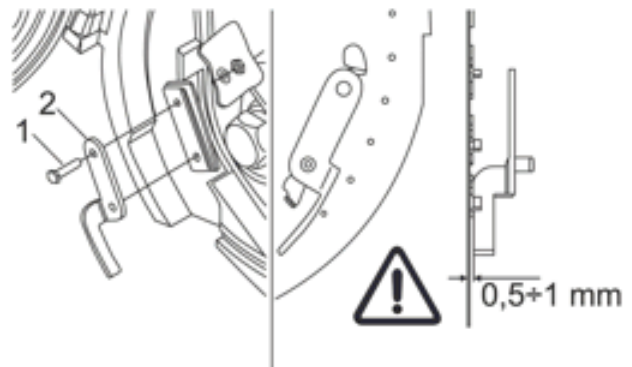

Fig. 16
Use the scraper (2, Fig. 16) only for sugar beet seeds.
Disengage the scraper part by loosening the screw (1, Fig. 16) for large seeds like sunflower, corn, soy bean and peanut.
Place the scraper like in Fig. 16 and tighten the screw (1). Be sure that disc and scraper are not telescoped. Replace the scraper in case of damage and deform.